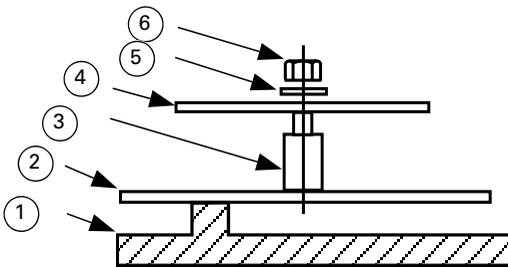

Fig. 5: ANC-8 - PCB Fixing Detail
- 1 Assemble the required ancillary PCBs onto the chassis plate as required, fixing as shown in Fig. 5.